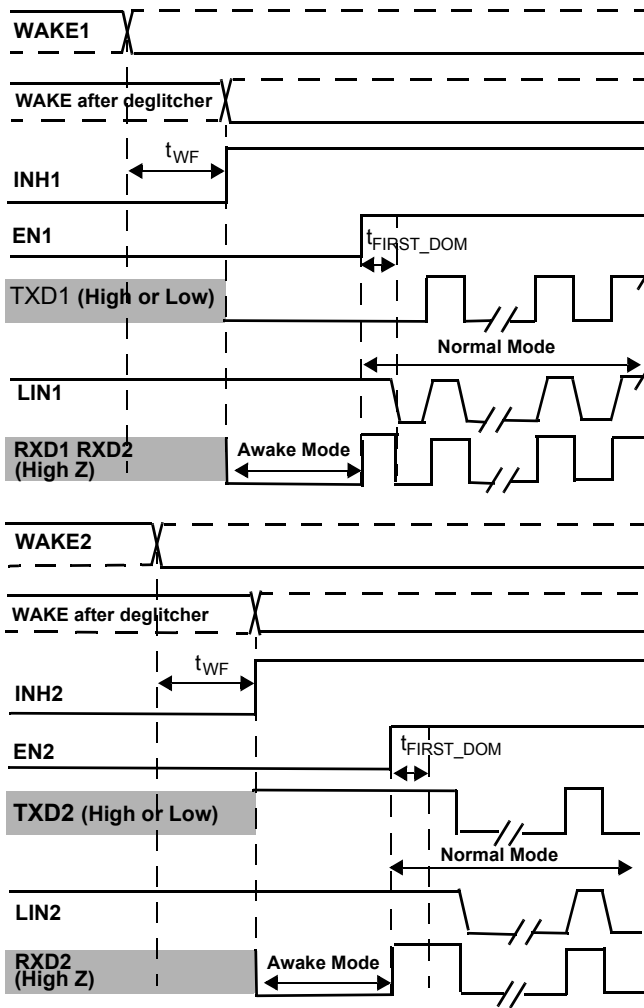

Figure 16. LIN Module 1 Wake1 Pin Wake-up with TXD1 Low & LIN Module 2 Wake2 Pin Wake-up with TXD2 High
- See Figures 16, 22, and 23
An internal filter is implemented to avoid false wake-up event due to parasitic pulses (See Figure 16). WAKE1 (WAKE2) pin input structure exhibits a high-impedance, with extremely low input current when voltage at this pin is below 27 V. Two serial resistors should be inserted in order to limit the input current mainly during transient pulses and ESD. The total recommended resistor value is 33 k $\Omega$ . An external 10 to 100 nF capacitor is advised for better EMC and ESD performances.